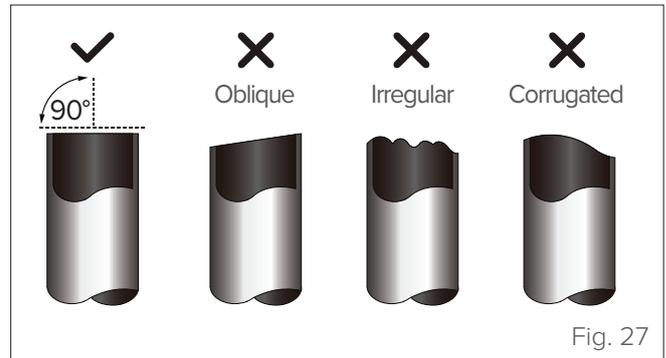

Fig. 27
- 3 Check that the pipe is cut at an exact 90° angle. Refer to the examples of incorrect cutting contained in “Fig. 27”.